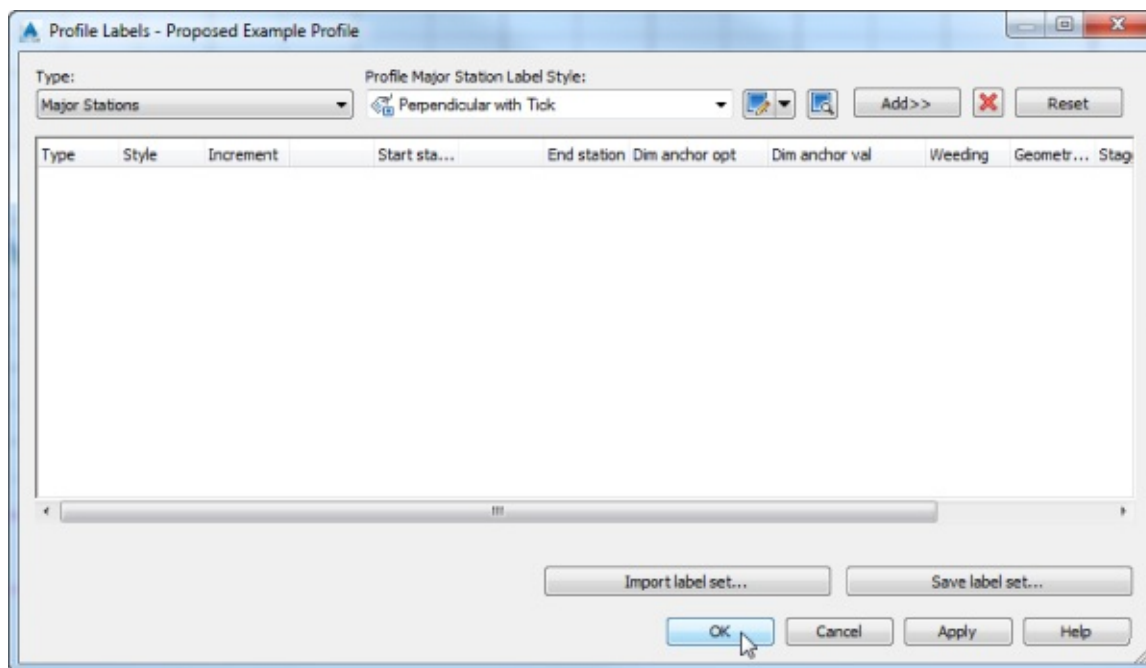

Figure 18.40 An empty Profile Labels dialog
3.  From the Profile contextual tab > Labels panel, select Edit Profile Labels to display the Profile Labels dialog (see Figure 18.40).